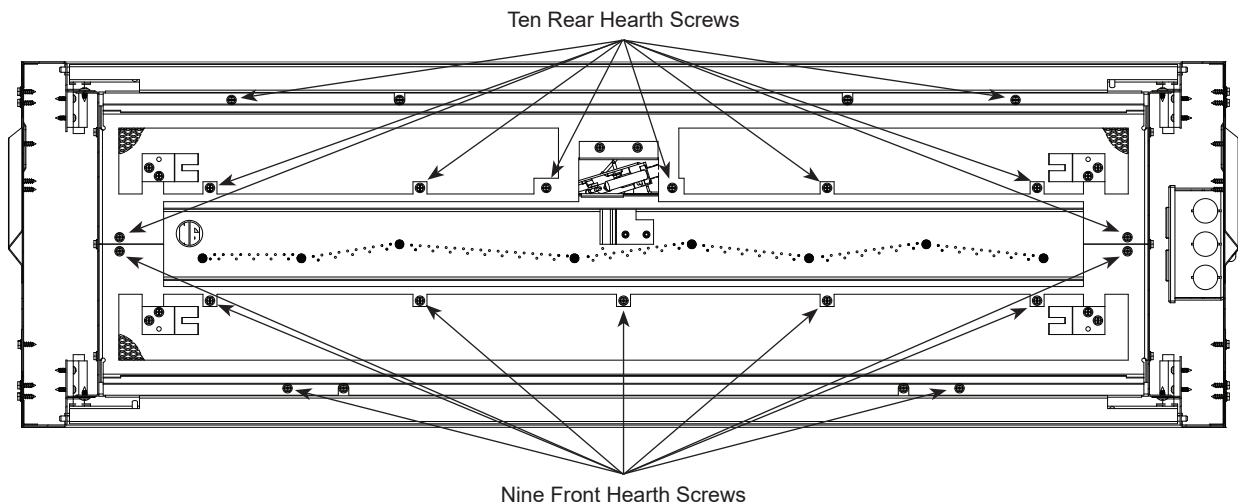

Figure 39. Hearth Screw Locations
3. Remove nineteen (19) screws holding front and rear hearth. Remove both and set aside. See Figure 39.